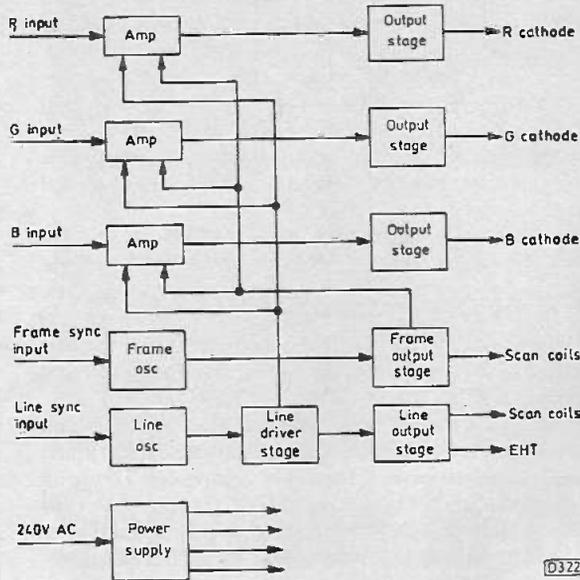

Fig. 1: Basic block diagram of a colour monitor.
Fig. 1 shows a block diagram of a typical colour monitor. It will look very familiar to anyone reading this article. Most monitors have a chopper power supply that provides outputs at around 6.3V, 12V, 20V, 87V (HT) and 135V. I've come across a few older monitors that have a series-regulator power supply, but these tend to be early types and you probably won't encounter one in normal servicing.